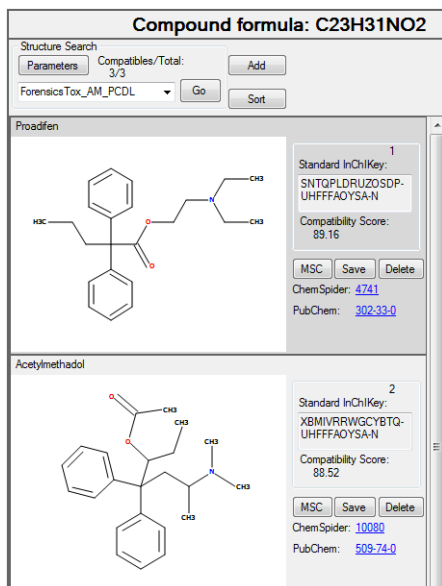

Figure 6 Display of matching candidate structure
- 2 Click one of the hyperlinks displayed to get additional information from the web about the particular compound and structure (see Figure 6 on page 11).